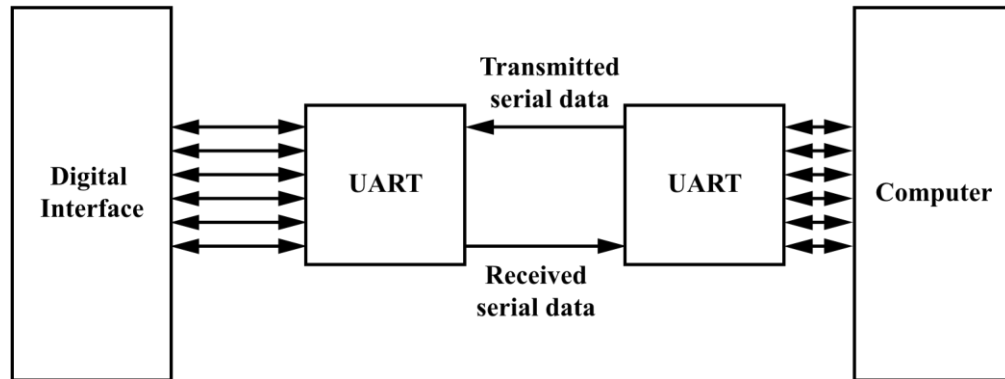

Figure 2. Block diagram of a UART
- (c) Figure 2 shows a block diagram of a UART.
Use the block diagram in Figure 2 to explain the basic operation of a UART.